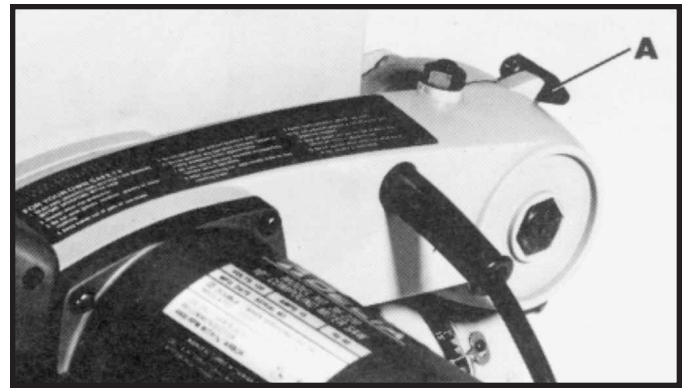

Fig. 2
1. Push down on the cuttinghead handle slightly and rotate latch (A) Fig. 2, to the other side.